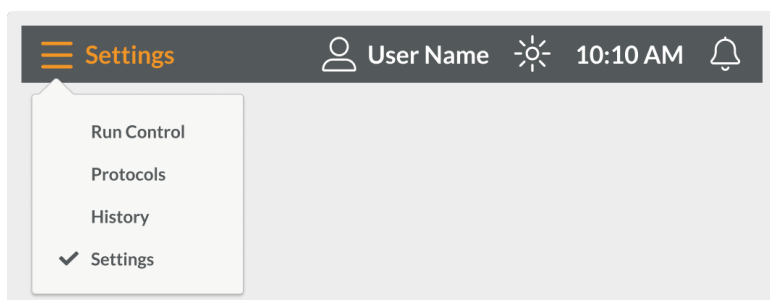
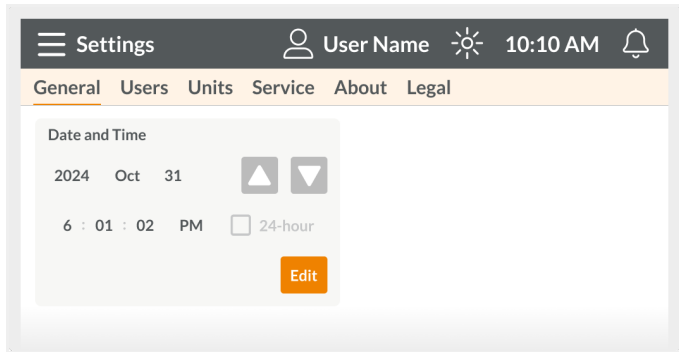

Figure 68. Navigating to Settings from the Main Navigation
Figure 69. General Tab Screen in Settings
Access STEMprep™ Tissue Dissociator Settings from the Main Navigation. Tap  to display the drop-down menu and select **Settings** (Figure 68).
Access date and time preferences in the **General** tab of the Settings section (Figure 69).
5. Navigate to **Settings** from the Main Navigation (Figure 68) if it is not already displayed and tap the **Units** tab (Figure 69).